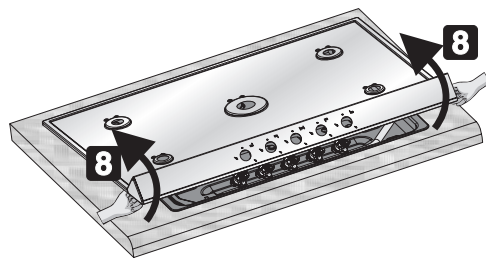

Fig. 4)
- after removing all the components described above, lift the front of the cooktop's upper surface (8, Fig. 4).